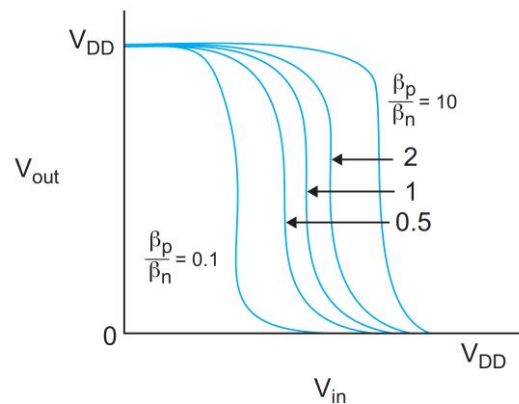

Figure 13: Transfer characteristics of skewed inverters
- ✓ The supply current  $I_{DD} = I_{dsn} = |I_{dsp}|$  is plotted against  $V_{in}$  in Figure 13(d) showing that both transistors are momentarily ON as  $V_{in}$ .
- ✓ Figure 13, shows the impact of skewing the beta ratio on the DC transfer characteristics.